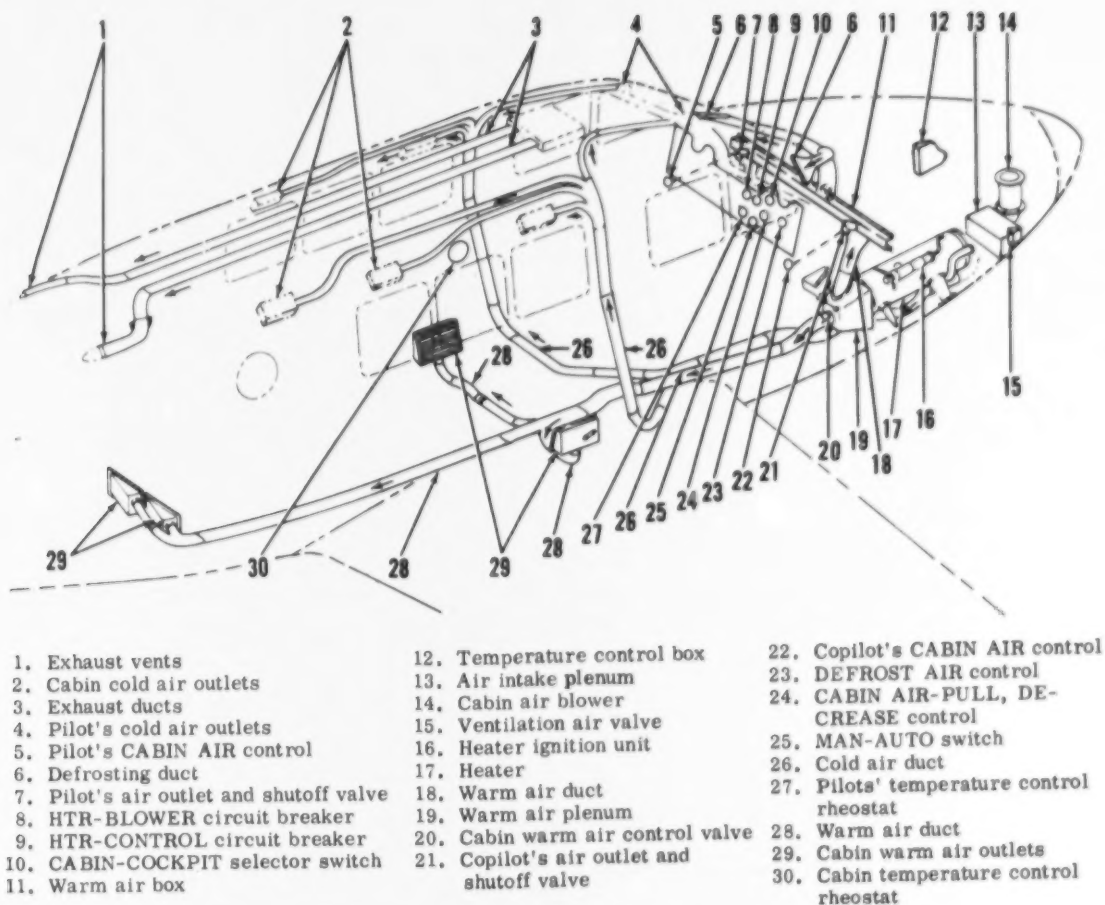

Figure 11-7. Heating, ventilating, and defrosting systems (U-8F)
11-37. The heating system (figures 11-7 and 11-8) consists primarily of a heater ignition unit, a 100,000 BTU heater, the heater fuel system, fuel pressure regulator, fuel solenoid valves, heater temperature box control, cabin
11-39. The HTR-BLOWER circuit breaker (9, figure 11-7) on the right instrument subpanel completes the electrical circuit to the cabin air blower if the landing gear is down. When the landing gear is retracted, a safety switch on the right-hand landing gear stops the blower, and ram air is then used in the heating and ventilating system. The cabin air blower may be used to provide fresh air with or without the heater operating, but the heater will not operate unless the blower is running or ram air is entering the air intake plenum. With the HTR-BLOWER circuit breaker (8) ON, the heater is turned on by the HTR-CONTROL circuit breaker (9).
11-43. The heater, (17, figure 11-7) is located beneath the floorboards on the right-hand side of the nose equipment compartment. The 100,000 BTU heater is comprised of a cylindrical combustion chamber within a hollow radiator, surrounded by a sheet metal jacket. Incoming air from the fresh air plenum passes between the combustion chamber and the radiator, and between the radiator and the jacket, in a straight line for the full length of the heater. Fuel is sprayed into the forward end of the combustion chamber and is ignited by a igniter plug which operates continuously when the heater is in use. Combustion air from the fresh air plenum is forced into the combustion chamber at a tangent and is mixed with the fuel spray to produce a swirling flame. The flame travels to the aft end of the combustion chamber where the hot gases from the flame are channeled into the radiator. The hot gases travel forward the full length of the radiator and are exhausted overboard through the heater exhaust shroud. Fuel is supplied to the heater from the left-hand engine fuel pressure line. Fuel flow is controlled by the fuel pressure regulator.